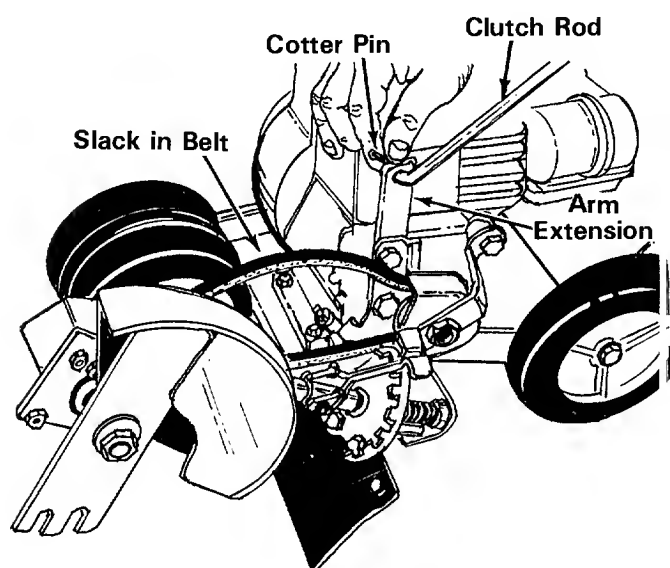

FIGURE 11
6. Pull the blade and guard assembly all the way back by hand until there is slack in the belt. See figure 11.
7. Secure the end of the lower clutch rod half to the arm extension on the pivot bracket with cotter pin. See figure 11.